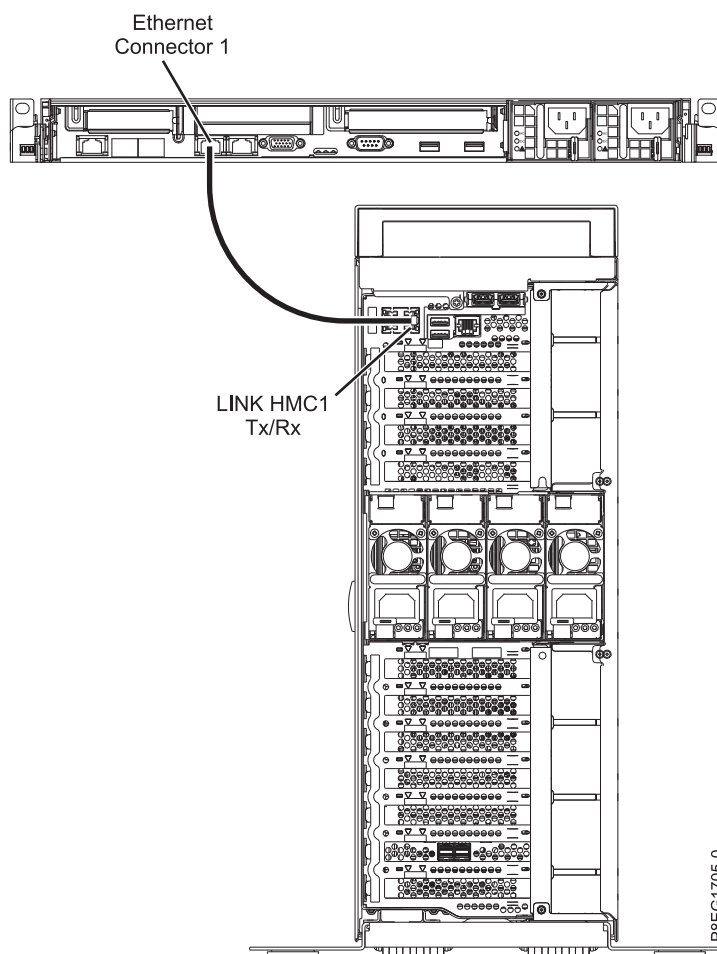

Figure 13. Attaching the HMC to the managed system
1. If you want to directly attach your HMC to the managed system, connect **Ethernet Connector 1** on the HMC to the **HMC1** port on the managed system. See Figure 13.